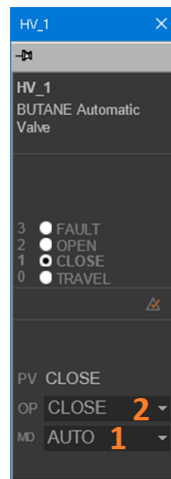

Figure 3 HV_1 control faceplate (Source: Experion HS)
- To manually control the system devices, click on them and select the Manual mode (Indicator 1 of Figure 3), then the desired value can be given by modifying the OP value (Indicator 2 of Figure 3).